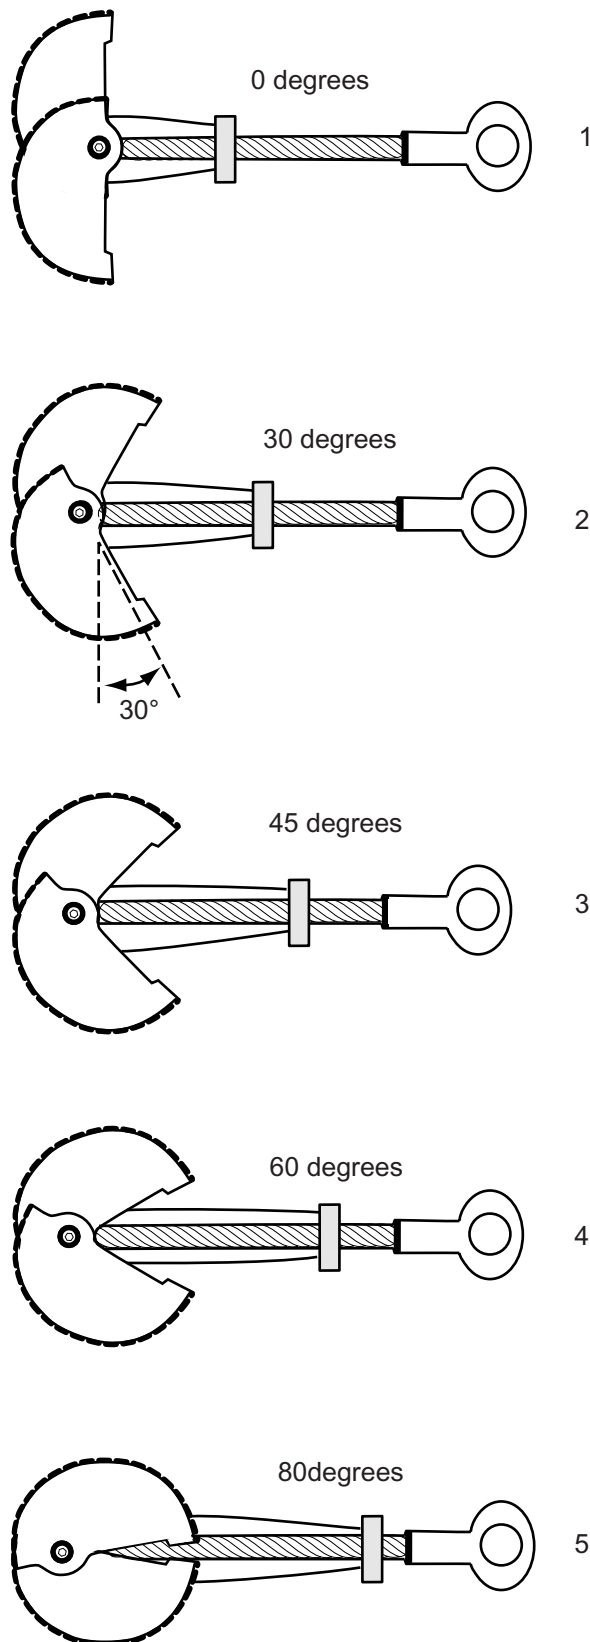

Fig 12-06b—SLCD placements
**SLCD placement.** Place SLCD's so that the direction of force in a fall is parallel to the stem and away from the cams (fig 12-06b). The ideal placement is when the cams are retracted about two-thirds of the way through the advertised range of the piece, or something that looks like a "Pacman." One study found that cams are safest when retracted (closed) 50-90%. (An SLCD hanging from your rack is 0% retracted; fully retracted cams are 100% retracted.) The wider open the cams are, the less stable the piece is; however, when the cams are almost closed, they still exert excellent holding power.